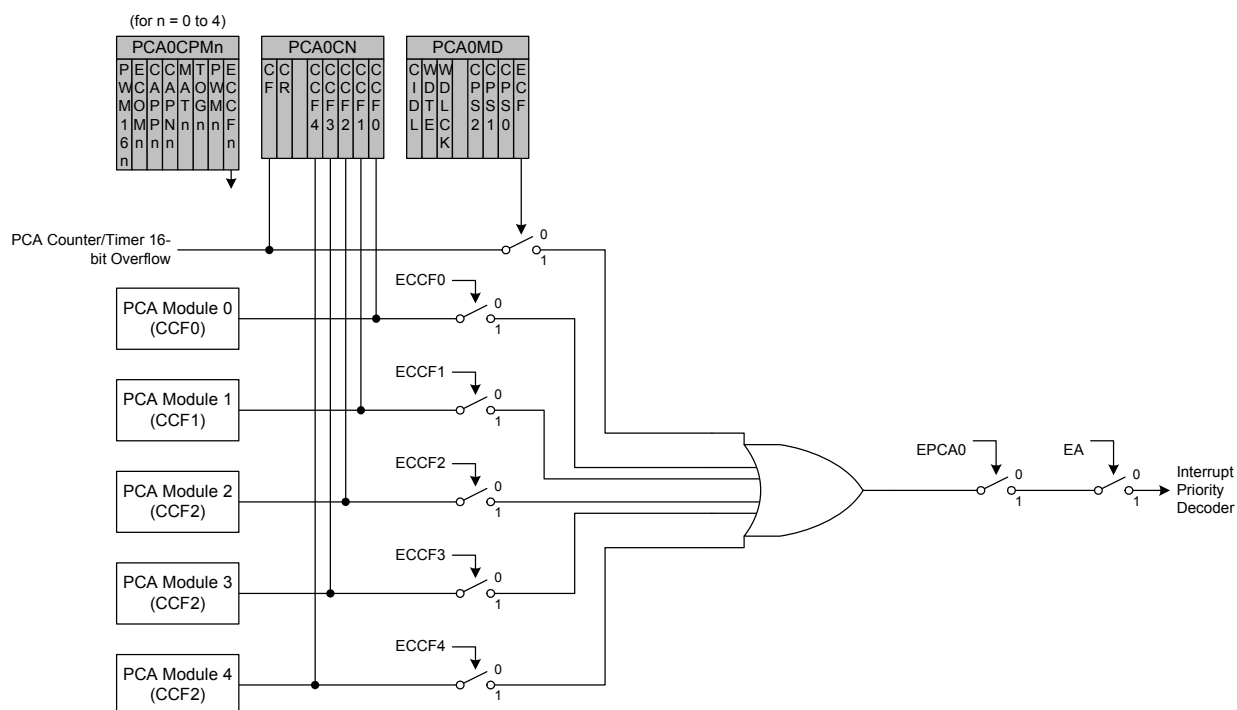

Figure 27.3. PCA Interrupt Block Diagram
Figure 27.3 shows a diagram of the PCA interrupt tree. There are six independent event flags that can be used to generate a PCA0 interrupt. They are: the main PCA counter overflow flag (CF), which is set upon a 16-bit overflow of the PCA0 counter and the individual flags for each PCA channel (CCF0, CCF1, CCF2, CCF3, and CCF4), which are set according to the operation mode of that module. These event flags are always set when the trigger condition occurs. Each of these flags can be individually selected to generate a PCA0 interrupt, using the corresponding interrupt enable flag (ECF for CF, and ECCFn for each CCFn). PCA0 interrupts must be globally enabled before any individual interrupt sources are recognized by the processor. PCA0 interrupts are globally enabled by setting the EA bit and the EPCA0 bit to logic 1.